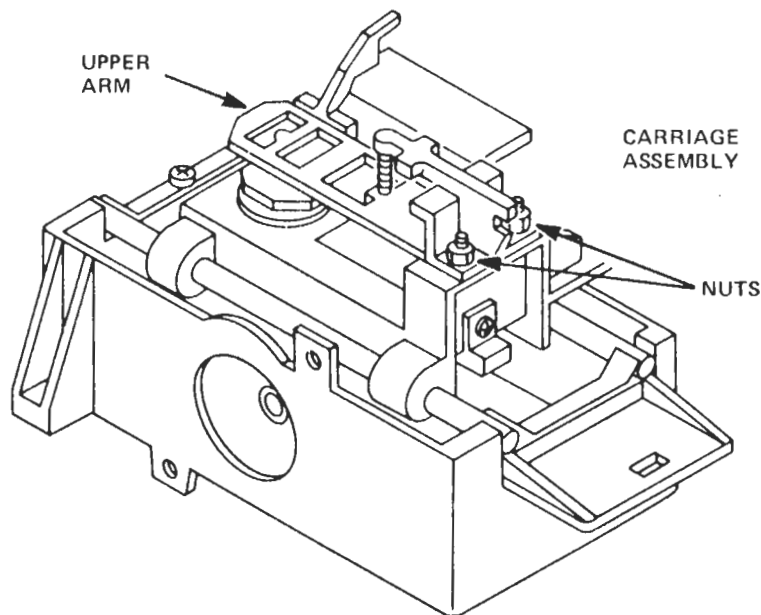

Figure 2-10
- 2.4.2.1 Turn the two (2) nuts that attach the upper arm to the carriage assembly (see Figure 2-10) counter-clockwise one-quarter (1/4) turn with a 3/16" nut driver.